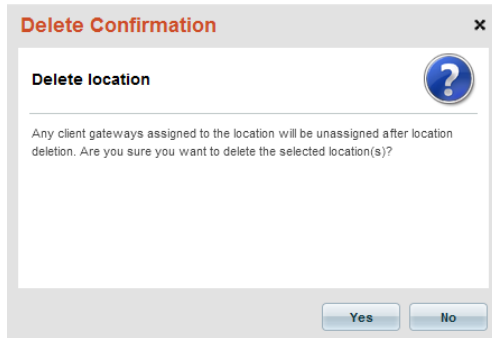

FIG. 189 Delete Confirmation dialog - Delete Location
3. The program will prompt you to verify this action before proceeding (FIG. 189):